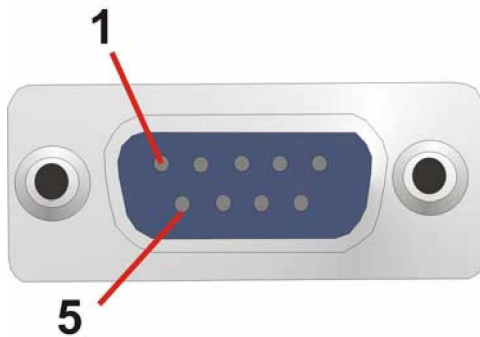

Figure 3-25: COM1 Pinout Locations
- CN Pinouts: See **Table 3-27** and **Figure 3-25**